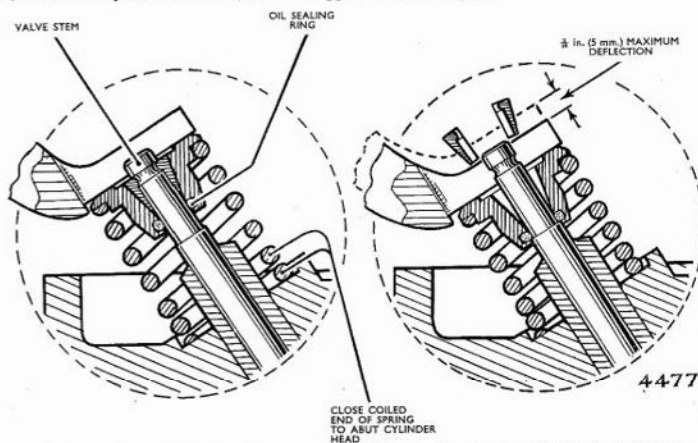

Fig. B.88. Correct use of valve spring compressor when fitting the valve spring, cup and sealing ring to the valve
4. When fitting the valve spring cups, care must be taken to avoid damage to the sealing ring, or the seal will not be effective and oiling of the sparking plugs may result. Damage can result from over compressing the valve springs, therefore careful note should be made, that the total distance the valve springs are compressed, whilst fitting the split cotters, does not exceed $\frac{3}{8}$ in. (5 mm.), as shown in Fig. B.88.